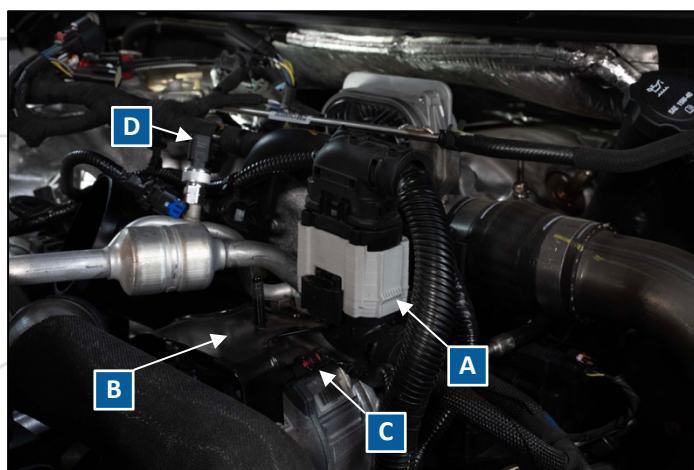

Figure 13: Top of A/C Compressor
**17. Remove large harness connector on bracket above A/C compressor (labeled as A in Figure 13).**
**18. Remove bracket from the top of A/C compressor, 13mm hex head nut x2 (labeled as B in Figure 13).**
**19. Unplug A/C clutch and A/C pressure connectors (labeled as C and D in Figure 13).**